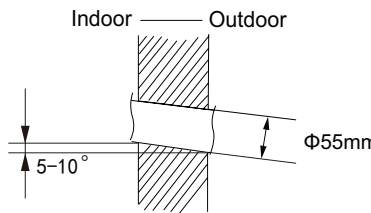

Fig.2
(2) Open a piping hole with the diameter of  $\Phi 70\text{mm}$  on the selected outlet pipe position. In order to drain smoothly, slant the piping hole on the wall slightly downward to the outdoor side with the gradient of  $5\text{-}10^\circ$ .(As show in Fig.2)